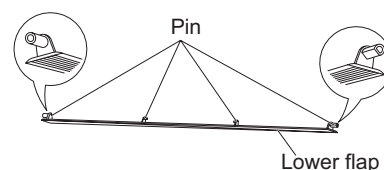
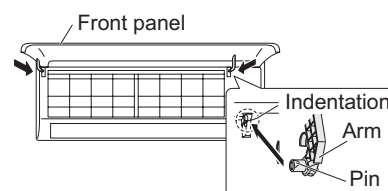
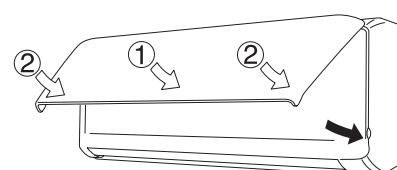

Fig. 2-244
Fig. 2-246
Fig. 2-247
- (1) While aligning the top edge of the grille with the frame, move the grille horizontally and insert the top and bottom into the frame.
- (2) Press the grille firmly with your hand to ensure no gap exists between the frame and grille.
- (3) Tighten the 6 screws. And fix the removed covers in place.
- (4) Grasp the sections near the front panel arms on both sides, and hold the front panel so that it is nearly horizontal. Push the arm shafts towards the outside so that they come into contact with the top of the indentations on the right and left sides of the air conditioner. Then push firmly until the arm shafts click into place. (Fig. 2-246)
- (5) Remount the lower flap.
- (In remounting the flap, it cannot be turned end for end because the right and left pins of the flap differ in form. (Fig. 2-244))
- (6) Insert the top of the anti-mold filter, and then secure the bottom of the filter with the protrusions on the unit.
- (7) When closing the front panel, push the central part of the front panel first and then press the bottom right and left corners in place until you feel a click. (Fig. 2-247)